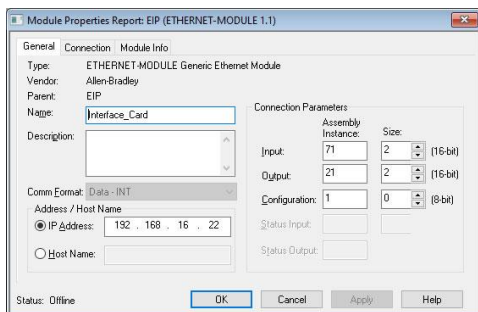

Figure 39: AC/DC Drive Profile Generic Ethernet Module Configuration
- 1) Complete all the steps in section 9.2.11. Please note that the Assembly Input Instance must be changed to 71 and the Assembly Output Instance must be changed to 21. Refer to Figure 39.